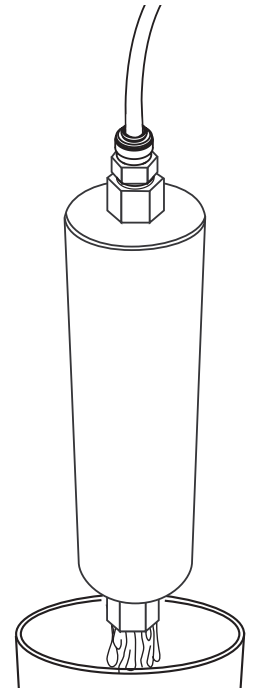

Figure 3
6. Turn on the incoming water supply and flush the filter into a bucket. Run water for 5 minutes to flush out air. (See Figure 3.)